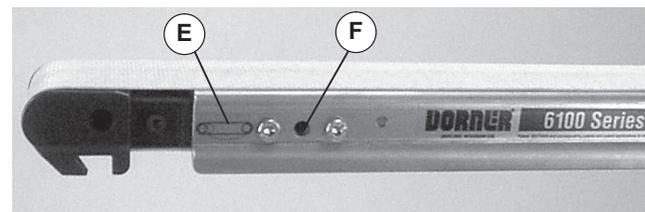
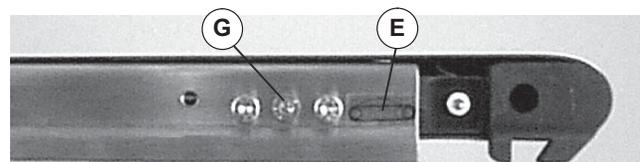

Figure 2
Figure 3
2. On tension end of the conveyor identified with a  label (Figure 2, item E) and (Figure 3, item E), insert a 5 mm hex key wrench to engage pinion gear (Figure 2, item F).
3. With pinion gear engaged, insert a 4 mm hex key wrench into lock screw (Figure 3, item G).
- Insert a 5 mm hex key wrench to engage pinion gear (Figure 2, item F).
On pinion gear (Figure 2, item F), do not exceed a torque of 25 in-lb (2.8 Nm) for 2" to 12" (44 mm to 305 mm) wide conveyors and 40 in-lb (4.5 Nm) for an 18" (457 mm) wide conveyor. Over-tensioning the conveyor belt could cause excessive pulley bearing load and early failure.
- With V-guide seated in pulley, rotate the pinion gear (Figure 2, item F) counter-clockwise to sufficiently tension the belt to handle the conveyor load.